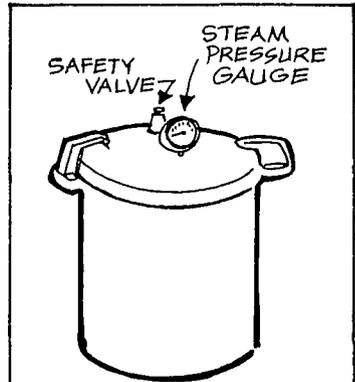

Fig. 62
1. After each use, clean pressure cooker (Fig. 62) as you would clean any aluminum utensil. Wipe inside of lid with a damp cloth. Handle lid carefully and never put in water. Leave lid off the cooker when not in use; storing it closed causes the aluminum to pit and discolor.
**Caution:** Unless this is done you have no safety protection. Safety valve should "pop off" between 16 and 20 pounds' pressure; if it does not "pop off" force spring down to loosen slightly. A new spring may be needed. Clean pet cock (Fig. 62) with fine steel wool.
3. **Caution:** Never open cooker without first making sure that the gauge registers "zero," and that the pet cock is open and all steam escaped (Fig. 62). Cool gradually and always open lid away from you.
6. Have pressure gauge (Fig. 62) tested whenever possible. If it fails to return to "zero," it should be adjusted by the manufacturer, or replaced with a new gauge.